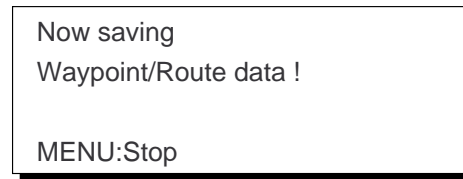

Figure 8-25
- Press the [NU/CU ENT] key. The message shown in Figure 8-25 appears while data is being saved.